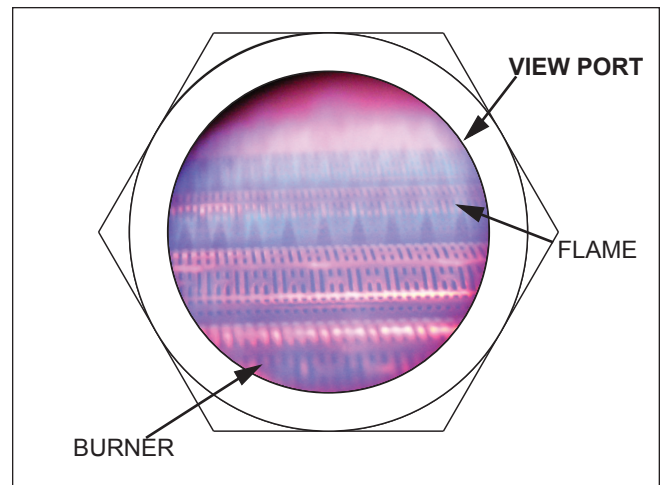

Figure 34. Flame View
12. Make a visual check of the main burner flame. The flame can be seen in a view port on the lower right side of the heater. The flame should be light blue in color and short (see Figure 34). If flame appearance is otherwise, adjustment is necessary as described in the following section.